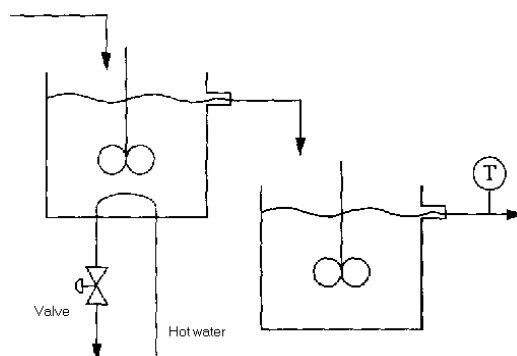
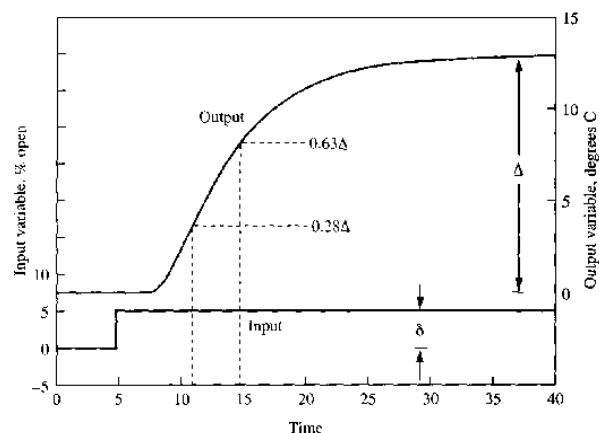

Figure Q7a Stirred Tank Process
Figure Q7b Reaction Curve of Stirred Tank Process
7. The process reaction experiment has been performed on the stirred tank process shown in Figure Q7a, the input and system reaction curves are given in Figures Q7b. Using the two points method determine parameters K , T and L for the first-order-plus-delay model